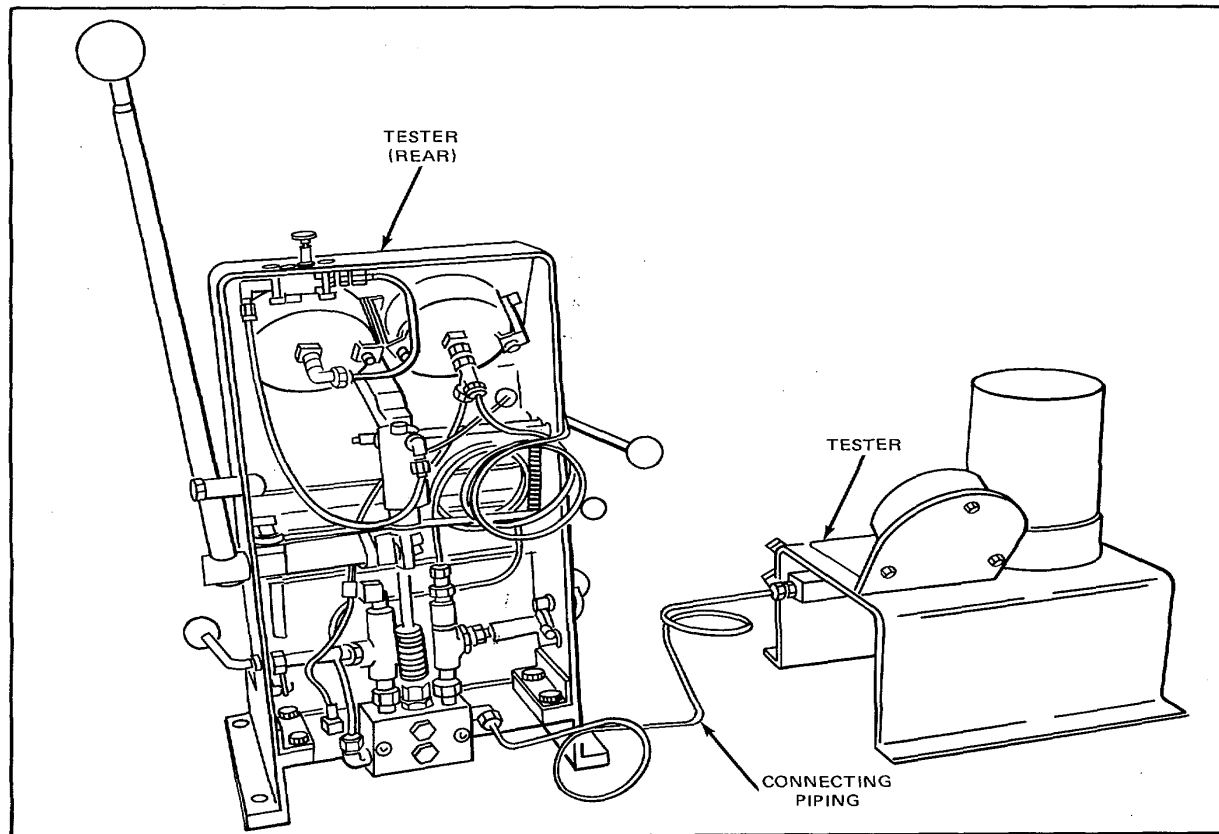

Figure 17. Injector Needle Valve Tester J 23010 with Auxiliary Tester J 22640
1. Connect the pipe from auxiliary tester J 22640 to the rear of the J 23010 tester at the connection located near the bottom of the tester (Fig. 17).